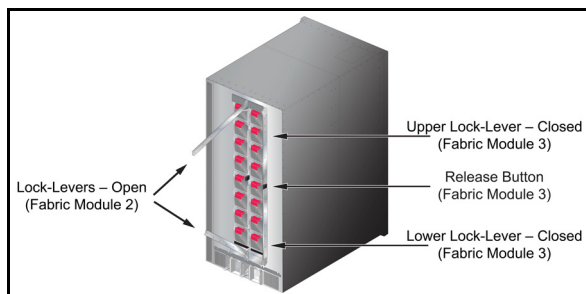

Figure 32: Locking Mechanism: DCS-7316 Fabric
Figure 32 depicts a DCS-7316 chassis with the inner two fabric modules installed. Lock-levers are shown in the open and closed position, along with the button that releases them into the open position. The lock-levers are in the closed position when the switch is in service.
Step 1 Release the lock-levers from the module frame (Figure 32-left).